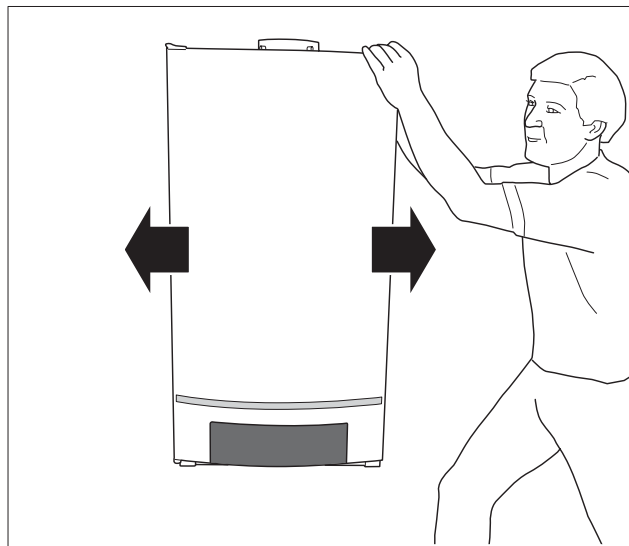

fig. 8 Sliding the boiler
- Slide the boiler into place (fig. 8).